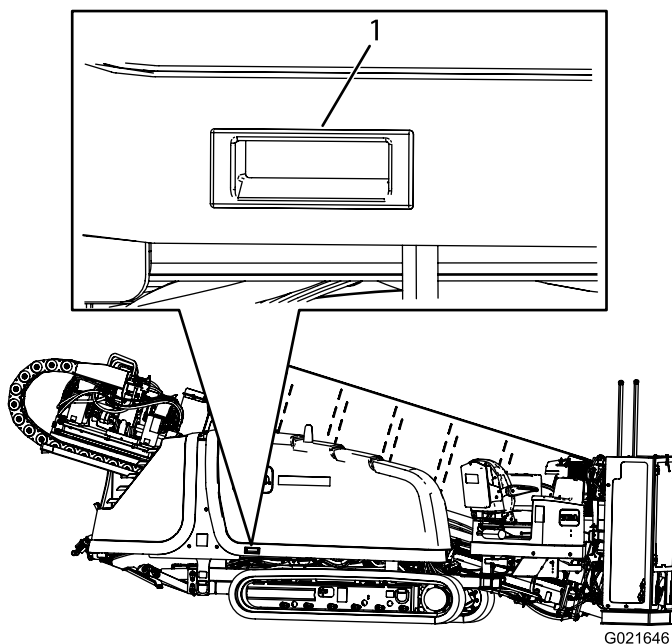

Figure 59
3. Lift up on the handle as shown in Figure 59.